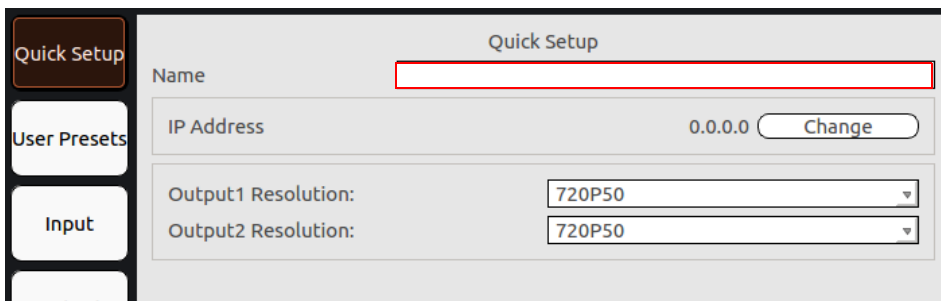

FIG. 3 Set a Name for the Unit
1. Once the unit completes the boot up process and the attached monitor displays the AMX logo, press the **MENU** button (on the N7142's front panel) to access the On-Screen Display (OSD) setup menu. The **Quick Setup** page displays (see Figure 3).